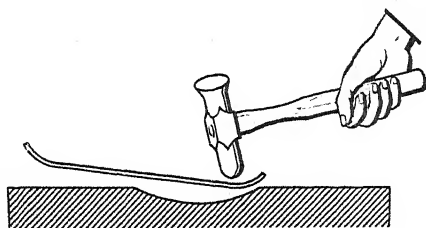

Figure 304. — Raising or bumping a copper ball.
One of your many qualifications for Metalsmith is the forming of a copper ball float. This float is used on the flushometer that regulates the flow of water into the water closet of some "heads." The process used in making the ball or float is known as bumping or raising. Figure 304 illustrates the manner in which one-half of the float is raised. You can use either a block of hardwood that has had a depression machined in it, or you can use a block of lead in which you have formed a depression with the bumping hammer. Whether you use a block of wood, a lead block, or a section of pipe having the desired diameter, the operation is about the same.
2. Hold the blank in position over the raising block in your left hand. Start forming the radius by working around the outside edge of the blank with the bumping hammer (figure 304).